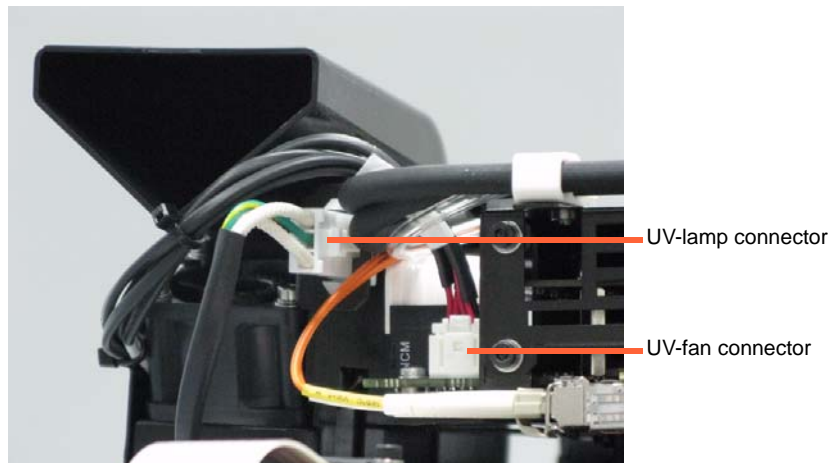

Figure 7-34: UV lamp/fan connections
6. Connect the UV lamp cable and the fan cable (see figure 7-34 on page 25).